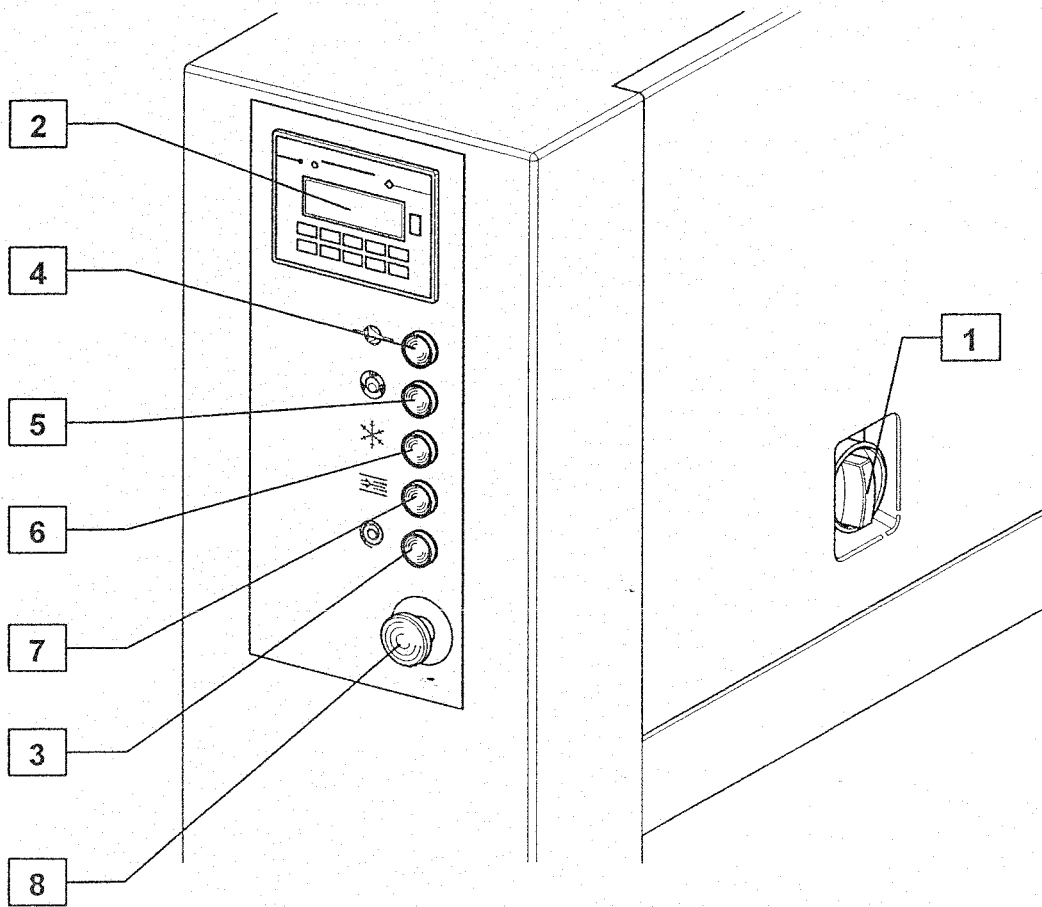

Fig. 6-1 – Adjustments
- Switch the machine on turning the main switch (Fig. 6-1 pos. 1) on the control panel.
- The OP display (Fig. 6-1 pos. 2) lights up.
- Command the filling up of the circuit with the mix using the CIP push button (Fig. 6-1 pos. 3).
- As soon as the product exit from the second pump is noted, push the CIP button again (Fig. 6-1 pos. 3) to switch it off.
- 1) Pumps (Fig. 6-1 pos. 4); during start-up, the inlet pump (mix) will reach the planned speed. The outlet pump (ice cream) will keep a very low speed until the pressure inside the cylinder reaches 1 bar. At that moment, the pressure adjusting system will take the control over the outlet pump to bring and keep the pressure at the planned value. During the beginning stage, and until the system reaches the right running, the outlet ice cream flow-rate will be small.
- 2) Cylinder (Fig. 6-1 pos. 5);
- 3) Compressor (Fig. 6-1 pos. 6);
- 4) Over-run Air (Fig. 6-1 pos. 7).
- a) Stop the air introduction into the ice cream by pushing the button (Fig. 6-1 pos.7).
- b) Stop the freezing compressor by pushing the proper button (Fig. 6-1 pos. 6).
- c) Stop the whipping shaft pushing the button (Fig. 6-1 pos. 5).
- d) Stop the pumps pushing the button (Fig. 6-1 pos. 4); this way, the inlet pump (mix) will immediately stop, whereas the outlet pump (ice cream), will go on working (the button pilot light is blinking) until the pressure inside the cylinder has lowered below 0.3 bar. Acting like this, the cylinder is not kept under pressure with pumps off.
- g) Start the whipping shaft up by pushing the button (Fig. 6-1 pos. 5).
- h) Start the freezing compressor up by pushing the button (Fig. 6-1 pos. 6).
- i) Start the pumps up by pushing the button (Fig. 6-1 pos. 4); during start-up procedure, the inlet pump (mix) will reach the planned speed. The outlet pump (ice cream) will keep a very low speed until the pressure inside the cylinder reaches 1 bar. At this point, the pressure adjusting system will take the control over the outlet pump to bring and keep the pressure at the planned value. During the first stage, and until the system reaches the right running, the outlet ice cream flow-rate will be small.
- j) Start the air installation up by pushing the button (Fig. 6-1 pos. 7).
- a) Stop the air introduction by pushing the button (Fig. 6-1 pos. 7).
- b) Stop the freezing compressor by pushing the button (Fig. 6-1 pos. 6).
- c) Stop the pumps by pushing the button (Fig. 6-1 pos. 4).
- d) Stop the whipping shaft by pushing the button (Fig. 6-1 pos. 5) waiting for the remaining ice cream to get out of the cylinder
- B) Start the washing up operating the CIP pumps of the lab washing installation (not included in the GIF 600 supply) and operating the freezer CIP cycle with the button (Fig. 6-1 pos. 3).
**WARNING:** Do not carry out CIP washing up without activating the CIP cycle with push button (Fig. 6-1 pos. 3): the washing flow would be inadequate.
- C1) Operate the whipping shaft through the push button (Fig. 6-1 pos. 5).
- D1) Operate the pumps through the push button (Fig. 6-1 pos. 4).
- E1) Let the hot water circulate until complete removal of the coarsest sediments. Once this condition has been reached (the sediments removal span must last as short as possible), stop the whipping shaft and the pump pushing the buttons (Fig. 6-1 pos. 5,6).
- F1) Turn the machine off rotating the general switch (Fig. 6-1 pos. 1).
The emergency stop is controlled by pushing the red mushroom-shaped button (Fig. 6-1 pos. 8) placed on the OP. The machine immediately stops: use this command only in case of real sudden needs of machine stops, when there is the risk of injuring people or machines. Do not use as machine stop at the end of the production.
It is possible to visualize on the OP display (Fig. 6-1 pos. 2) values needed to adjust correctly: